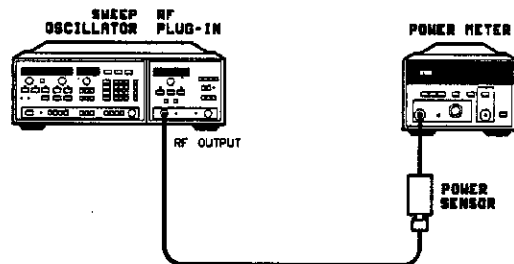

Figure 4-3. Power Level Accuracy, Maximum Leveled Output Power, and Power Variations Test Setup
13. Connect the equipment as shown in Figure 4-3, but do NOT connect the power sensor to the plug-in.